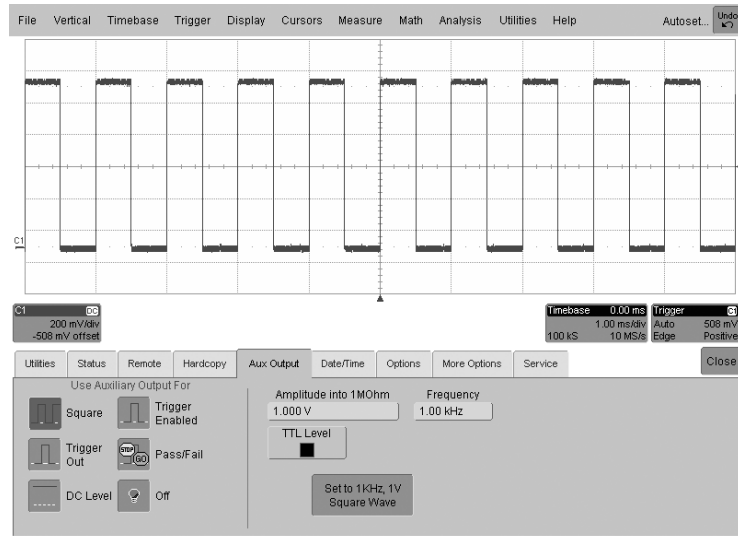

Figure 7-4. Square wave output signal.
15. Verify that the screen shows a square wave centered around the center graticule line. Refer to figure 7-4. If no square wave is shown, the + channel of the probe may be faulty.